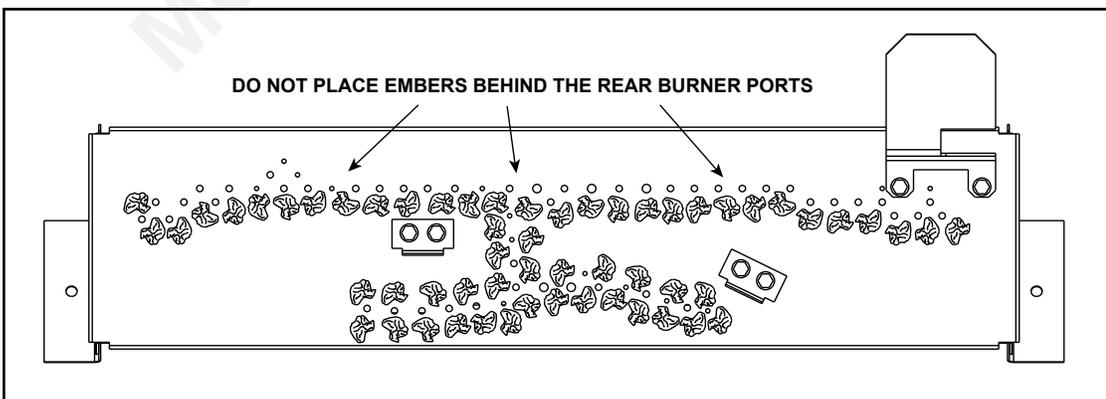

Figure 56. Placement of the Ember Material
- Place small pieces of ember material on burner top around burner ports (Figure 56). Do NOT press embers into burner ports. Cover the top of the burner with a single layer of ember material. Do NOT place embers behind the rear port row as noted in Figure 56.